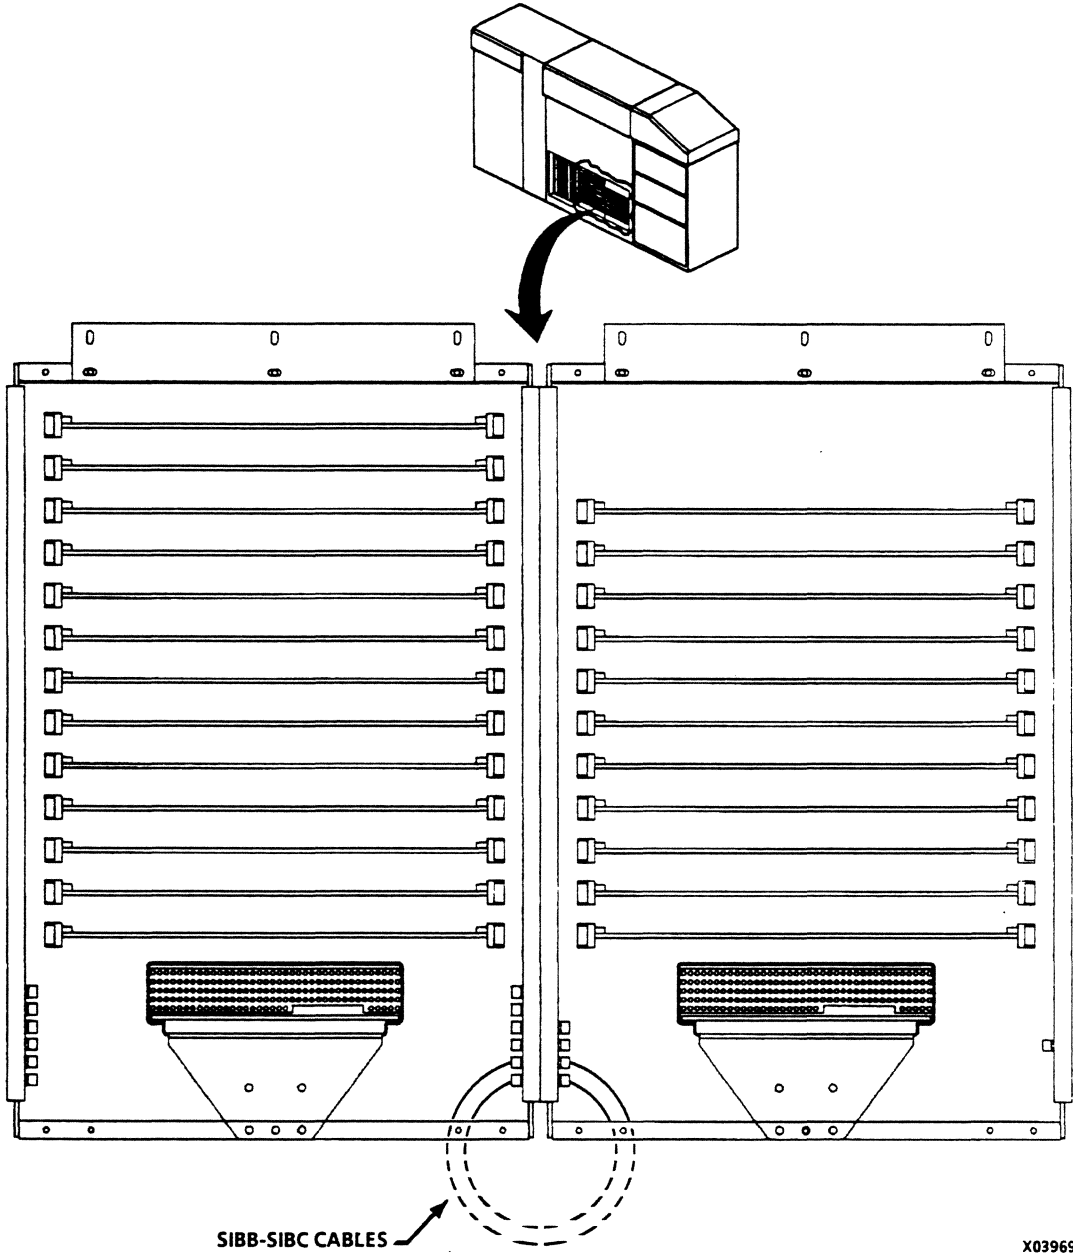

Figure 3-32. SIBB to SIBC Cabling
- ___ 3. Install cables (figure 3-32) using decal on blower box as a guide. Note location of pin 1 according to the applicable substep below.